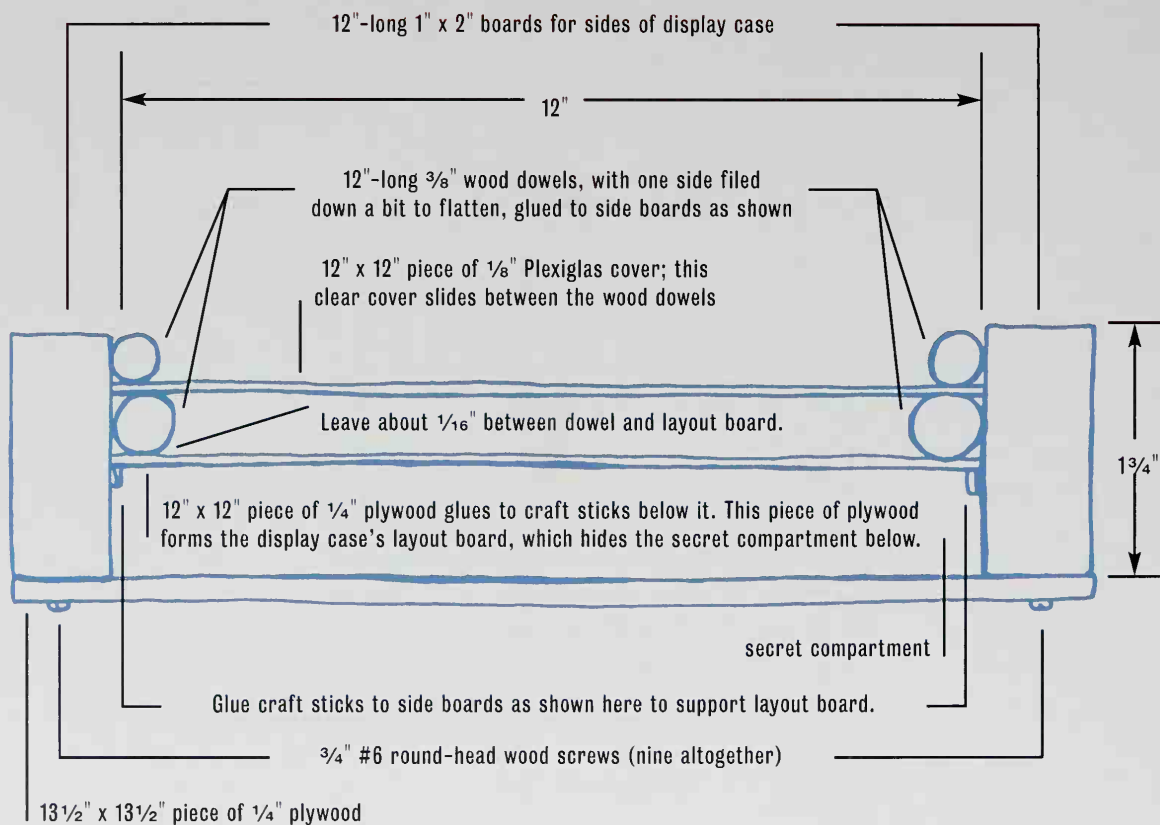

Fig. 2
6. Use nine ¾" #6 wood screws to fasten the bottom to the case. See **Fig. 2**. Four rubber feet can be glued to bottom if desired.